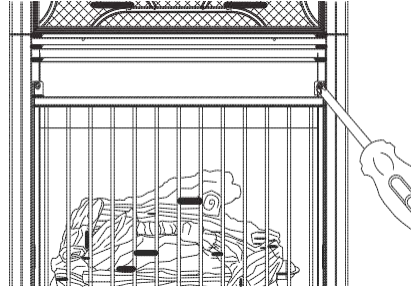

Figure 12 - Removing Grill from Fireplace
12. Remove 2 screws securing grill to stove front. Carefully set grill aside (see Figure 12).
20. Install grill with 2 screws removed previously (see Figure 12).